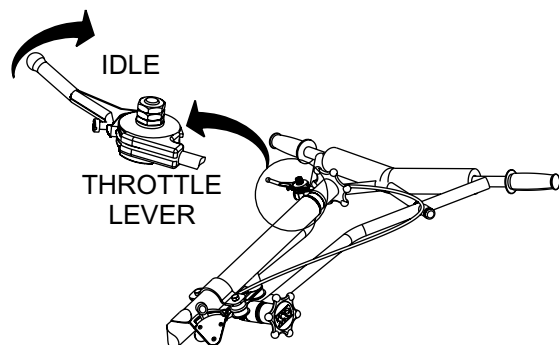

Figure 32. Throttle Lever (Idle)
1. Move the throttle lever to the (Figure 32) "IDLE" position and run the engine for three minutes at low speed.